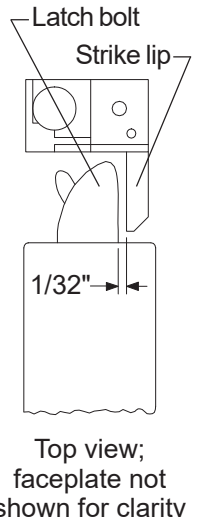
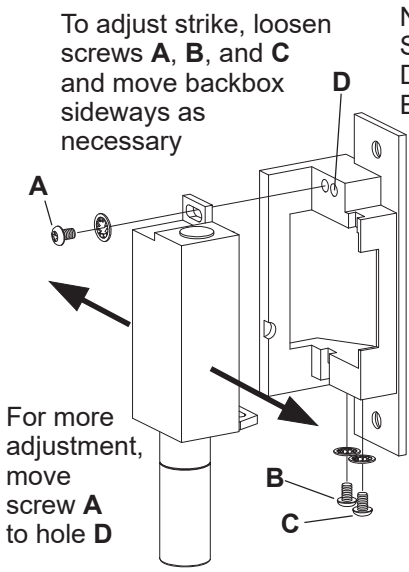

Figure 3
Figure 4
- Install strike with two #12-24 screws. Make sure clearance between latch bolt and strike lip is 1/32" (Figure 3). If not, uninstall strike, adjust (Figure 4), and reinstall.